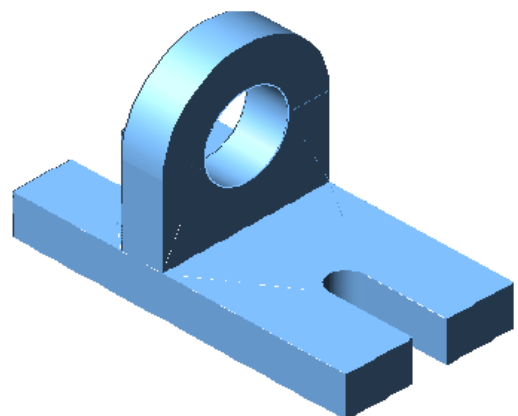

Figure Step 25
Step 25 Shade the model and it should appear as shown in Figure Step 25.